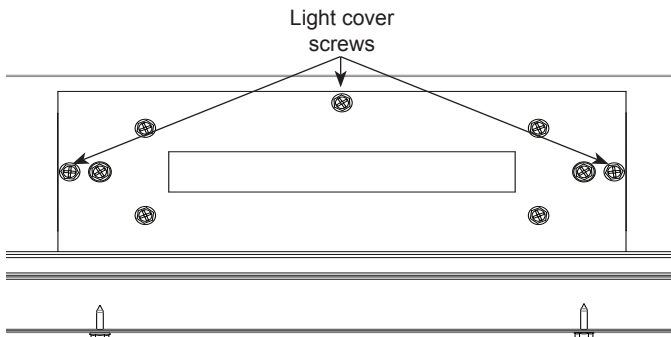

Figure 11—
1. Remove three screws holding light cover in place (as shown in Figure 11)
2. Insert (1) 90W bulb provided into socket